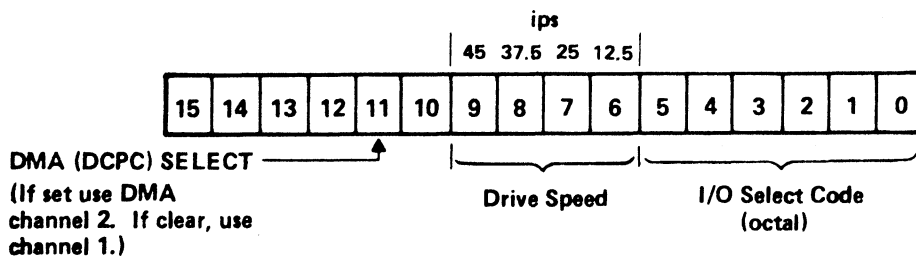

Figure 1. Switch Register Bit Positions
- d. Enter the select code (in octal) for the HP 13184A interface in switch register positions 5 through 0. (Load the lower select code of the interface pair.) Enter the speed of the tape unit (see Figure 1) in switch register bit positions 9 through 6 and the DCPC (DMA) channel selection in switch register bit 11.